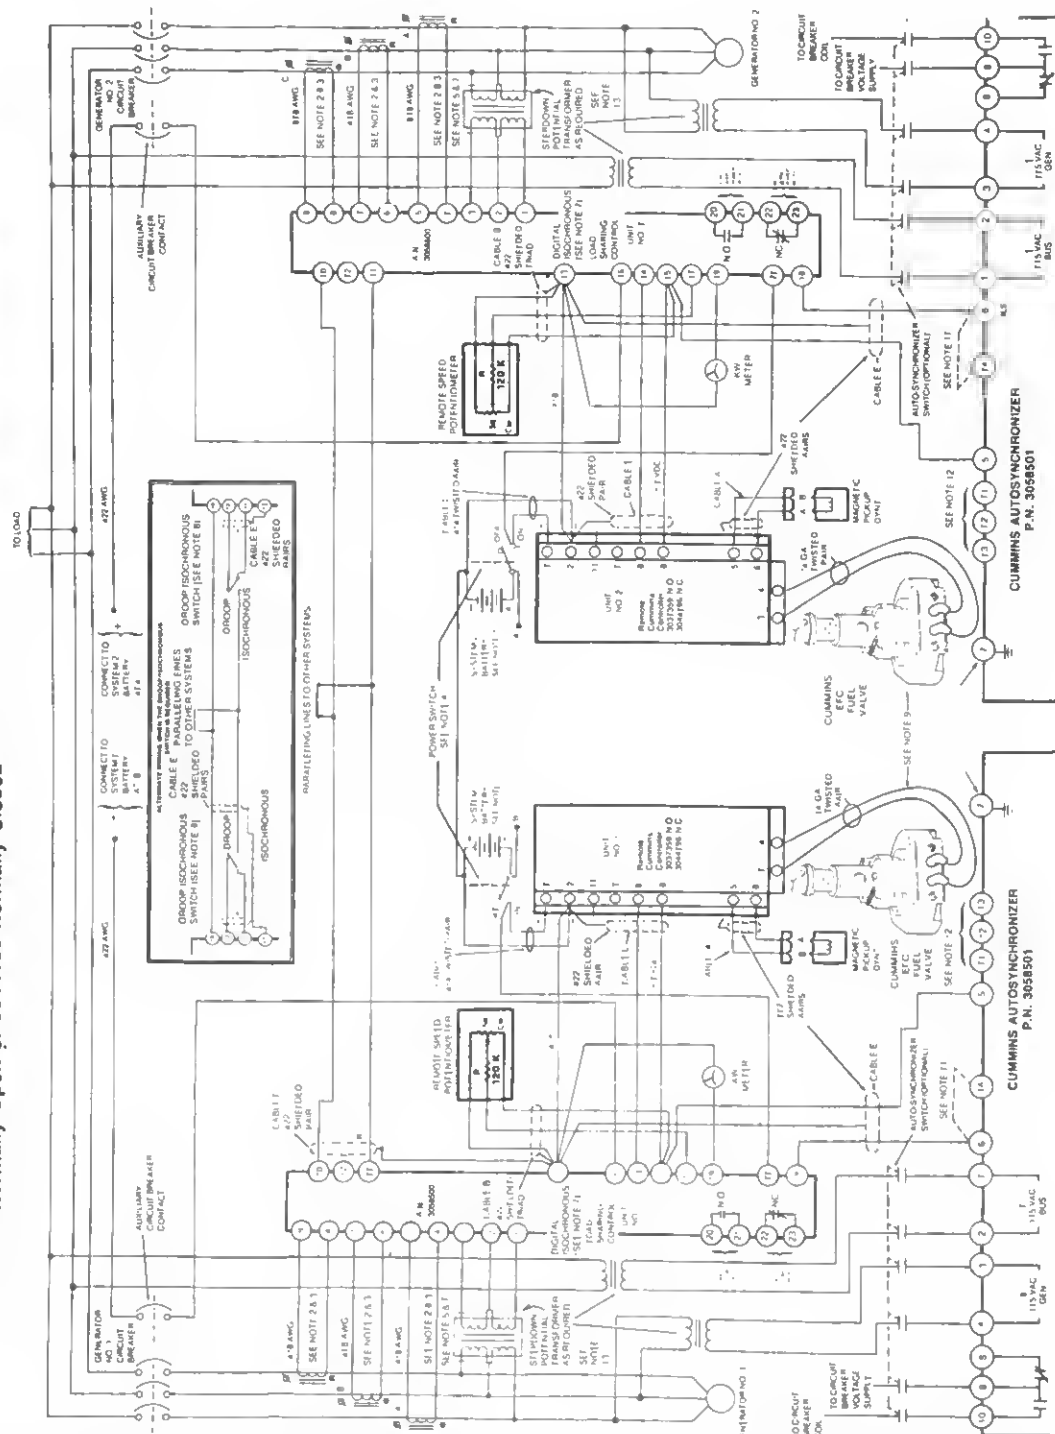

Figure 2.
Figure 2 illustrates the wiring of two engine generator sets having Cummins governors, and Cummins Digital Isochronous Load Sharing Controls and Cummins Auto-Synchronizers. Additional engine generator sets can be paralleled by wiring them at the point designated, PARALLELING LINES TO OTHER SYSTEMS.
- b. Connect DC voltmeter to TP1 and TP2 test jacks. See Figure 2 in the Installation Section. The red jack is plus and the black jack is minus. The positive lead of the voltmeter goes into the red jack.